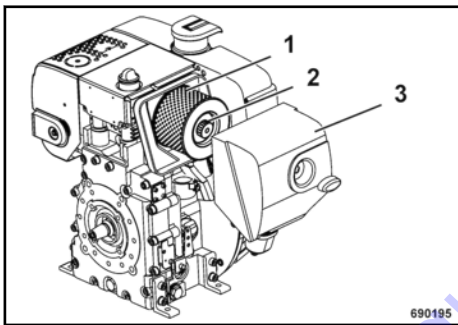

Fig. 38
Remove the filter cover (3) ↗ Fig. 38.
Insert the air filter (1)  Fig. 38 into the housing and fasten it with the knurled nut (2).